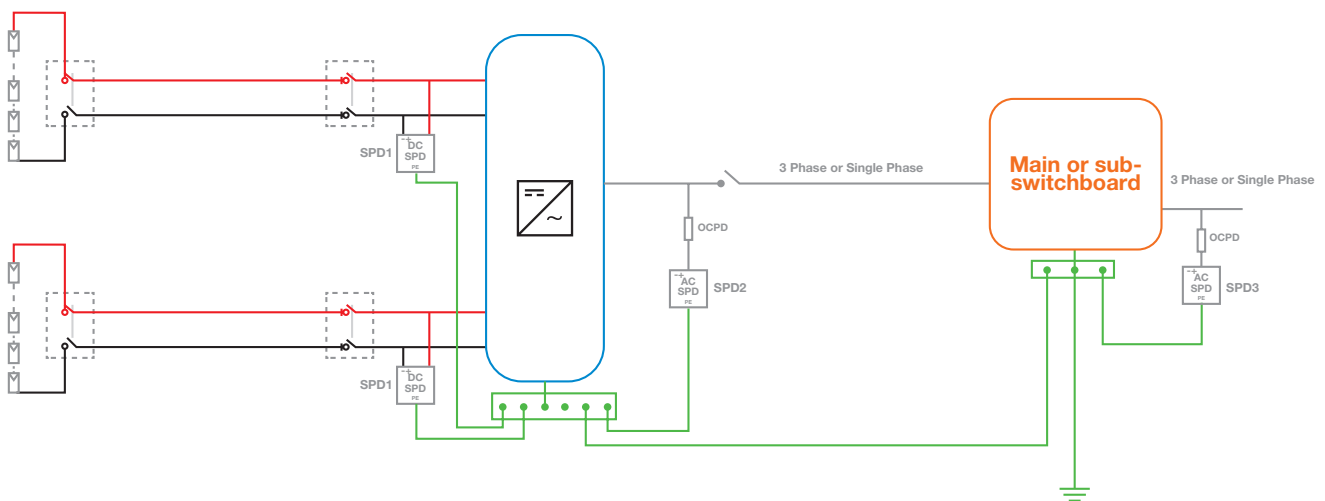

Figure 4. Electrical Schematic for Roof Mounted Panels with No Building LPS
Protection in this case is required only against indirect lightning. Figure 4 below represents this as an electrical schematic.
4. The protective earths of the SPDs and the frame earth of the inverter must be bonded together and in turn connected to the main earth bar as in figure 4. 4mm² cable is suitable.
The following tables list the Novaris products that are most suitable for the applications as referenced in Figure 4.